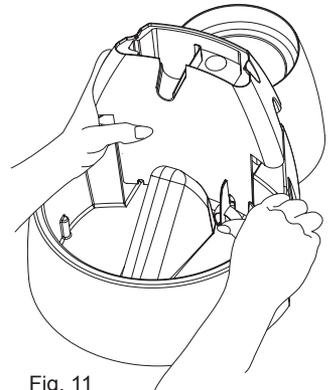
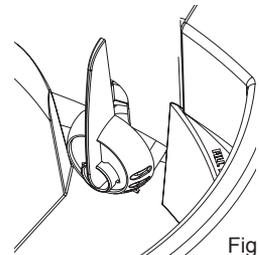

Fig. 11
Fig. 12
5. Hold these parts in place with one hand while attaching the housing with the other hand (Fig. 11). Attach the housing by just sliding the cutout in the wall of the housing down IN BETWEEN the control knob and the stator, (Fig. 12).